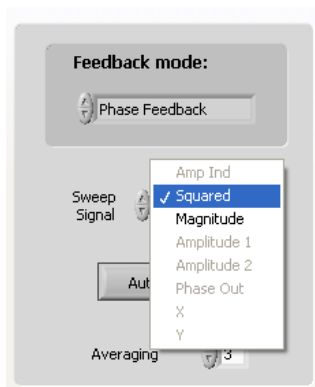

Figure 42 Changing Sweep Signal to "Squared"
1. On the center panel, click **Sweep Signal** and select **Squared** in the pop-up menu (Figure 42). "Squared" is a mathematical formula which determines the phase signal.